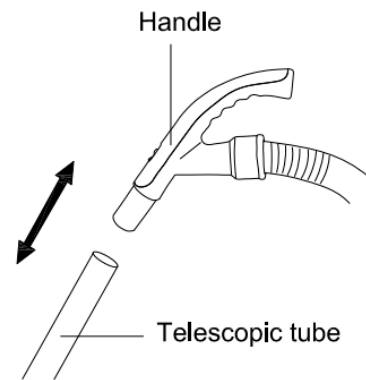

Fig 2
3. Pull the handle out from the telescopic tube. (Fig2)